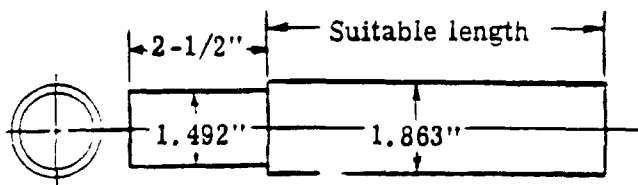

Figure 8-44. Bushing Removal and Installation Tool
8. Remove nylon bushings if replacement is necessary. Use suitable tool for both removal and installation of bushing. See Figure 8-44.